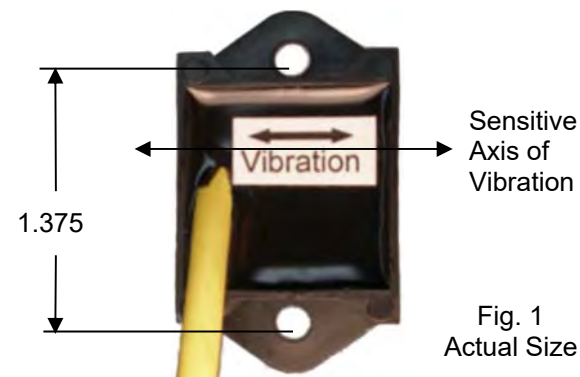
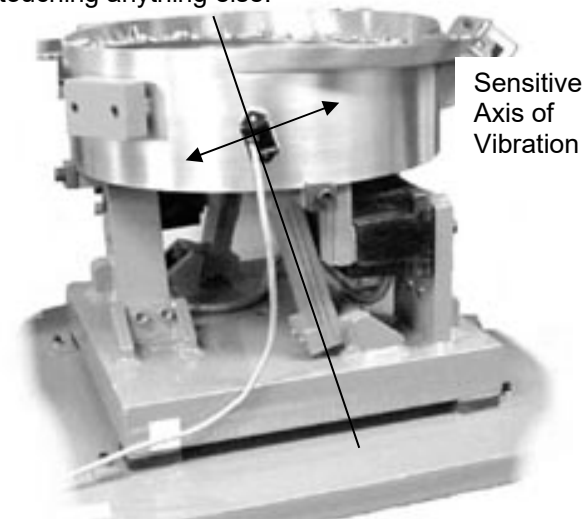

Fig. 1
Fig. 2 The arrow shows the direction of vibration which is at a right angle to the spring pack.
**A. ORIENT THE SENSOR** so that its sensitive axis is in the same direction as the vibration of the feeder. The arrow in figure 1 shows the sensor’s sensitive axis. Align the sensitive axis of the sensor in the same direction as the vibration (see figure 2). The sensor must be oriented correctly for proper operation.
- 6) Remove the vibration sensor from its protective packaging. Remove the liner from the adhesive backing. Avoid touching the tape. Align the sensor as shown in figures 1 and 2. Apply the vibration sensor to the prepared area of the feeder. Press the sensor very firmly onto the feeder surface for at least 10 seconds.
Use a cable tie and an adhesive-backed mount to attach the sensor cable to the side of the drive base. See Figure 2. Clean the mounting area before applying the adhesive-backed mount.